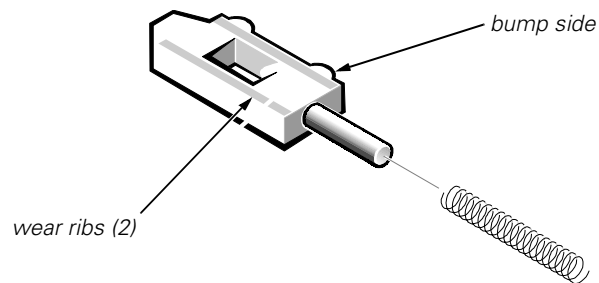

Figure 25. Left Slider
- b. Ensure that the plunger is inserted in its respective hole, that the side of the slider with the two bumps is facing the rear of the case, and that the surface with the wear ribs is facing the bottom of the case (see Figure 25).